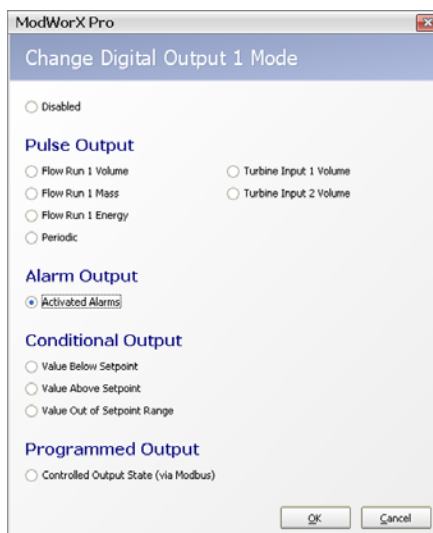

Figure 7.10
- From the Change Digital Output screen, select **Activated Alarms** (Figure 7.10, page 96).